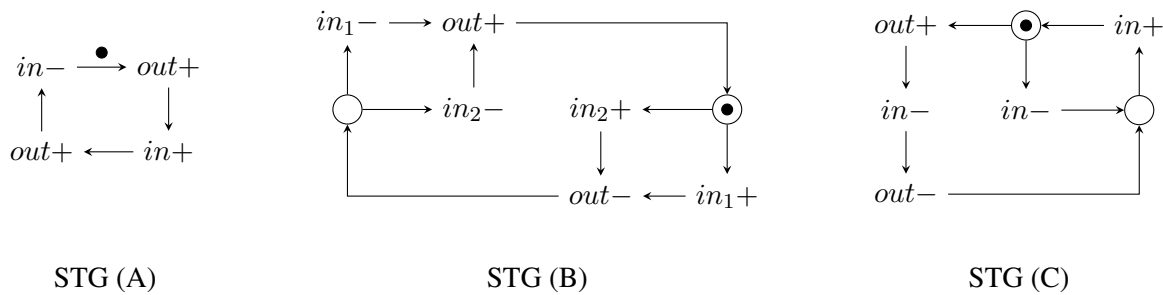

Figure 7: Invalid STGs
- b) STGs must satisfy certain properties to be valid. These include liveness (i.e., deadlock-freeness), persistency and consistency (i.e., consistent state assignment). The three STGs shown in Figure 7 all violate one of these properties. Assign the property-violations to the STGs and explain how and why the respective STG violates the property.